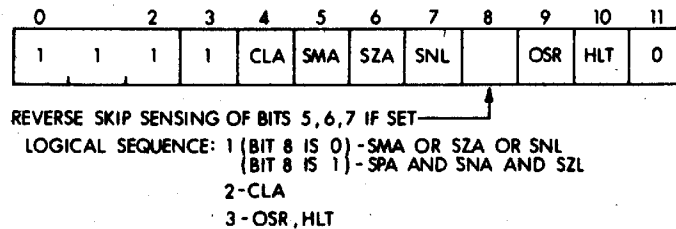

Figure 5-4 Group 2 Operate Microinstructions
**Group 2 Microinstructions**—Figure 5-4 shows the format of a group 2 microinstruction. The operation code must be 7 to indicate an operate instruction; bit 3 must contain a 1, and bit 11 a 0 to indicate a group 2 microinstruction. Bits 4 through 10 may be set to indicate a specific group 2 microinstruction. If more than one of bits 4–7 or 9–10 is set, the instruction is a microprogrammed combination of group 2 microinstructions, which will be executed according to the logical sequence shown in Figure 5-4. Table 5-4 lists the group 2 microinstructions, their mnemonics, and the operations they perform.
Skip microinstructions may be microprogrammed with CLA, OSR, or HLT microinstructions, and also with other skip microinstructions that have the same value in bit 8. Skip microinstructions that have a 0 in bit 8 may not be microprogrammed with skip microinstructions that have a 1 in bit 8, however. When two or more skip microinstructions are microprogrammed into a single instruction, the resulting condition on which the decision will be based is the logical OR of the individual conditions when bit 8 is 0, or the logical AND of the individual conditions when bit 8 is 1 (Figure 5-4).